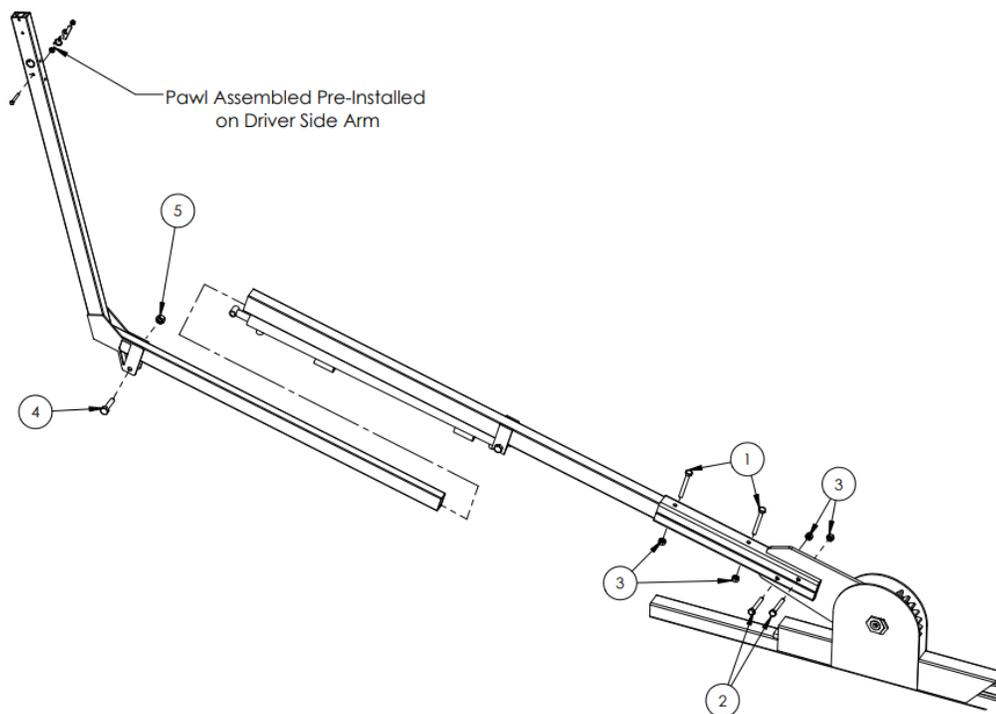

Figure 2.9: Assembling Base Arm and Extension Arm
Slide the Base Arm into the Pivot Arm until holes align. Using the provided $\frac{1}{2}$ " hardware, secure the base arm to the pivot arm. Two $\frac{1}{2}$ " x 4- $\frac{1}{2}$ " bolts (1) through each top channel and two $\frac{1}{2}$ " x 3- $\frac{1}{2}$ " bolts (2) through each side channel using $\frac{1}{2}$ " lock nuts (3) to secure, see *Figure 2.9*.
Slide the upper extension arm into the base arm. The driver side arm has the pawl and spring assembly attached. Carefully, take the temporary arm cylinder restraint loose and bolt extension arm to cylinder rod end using the provided $\frac{5}{8}$ " hardware (4 & 5), see *Figure 2.9* above. At this point, both arm assemblies should be installed and secured.